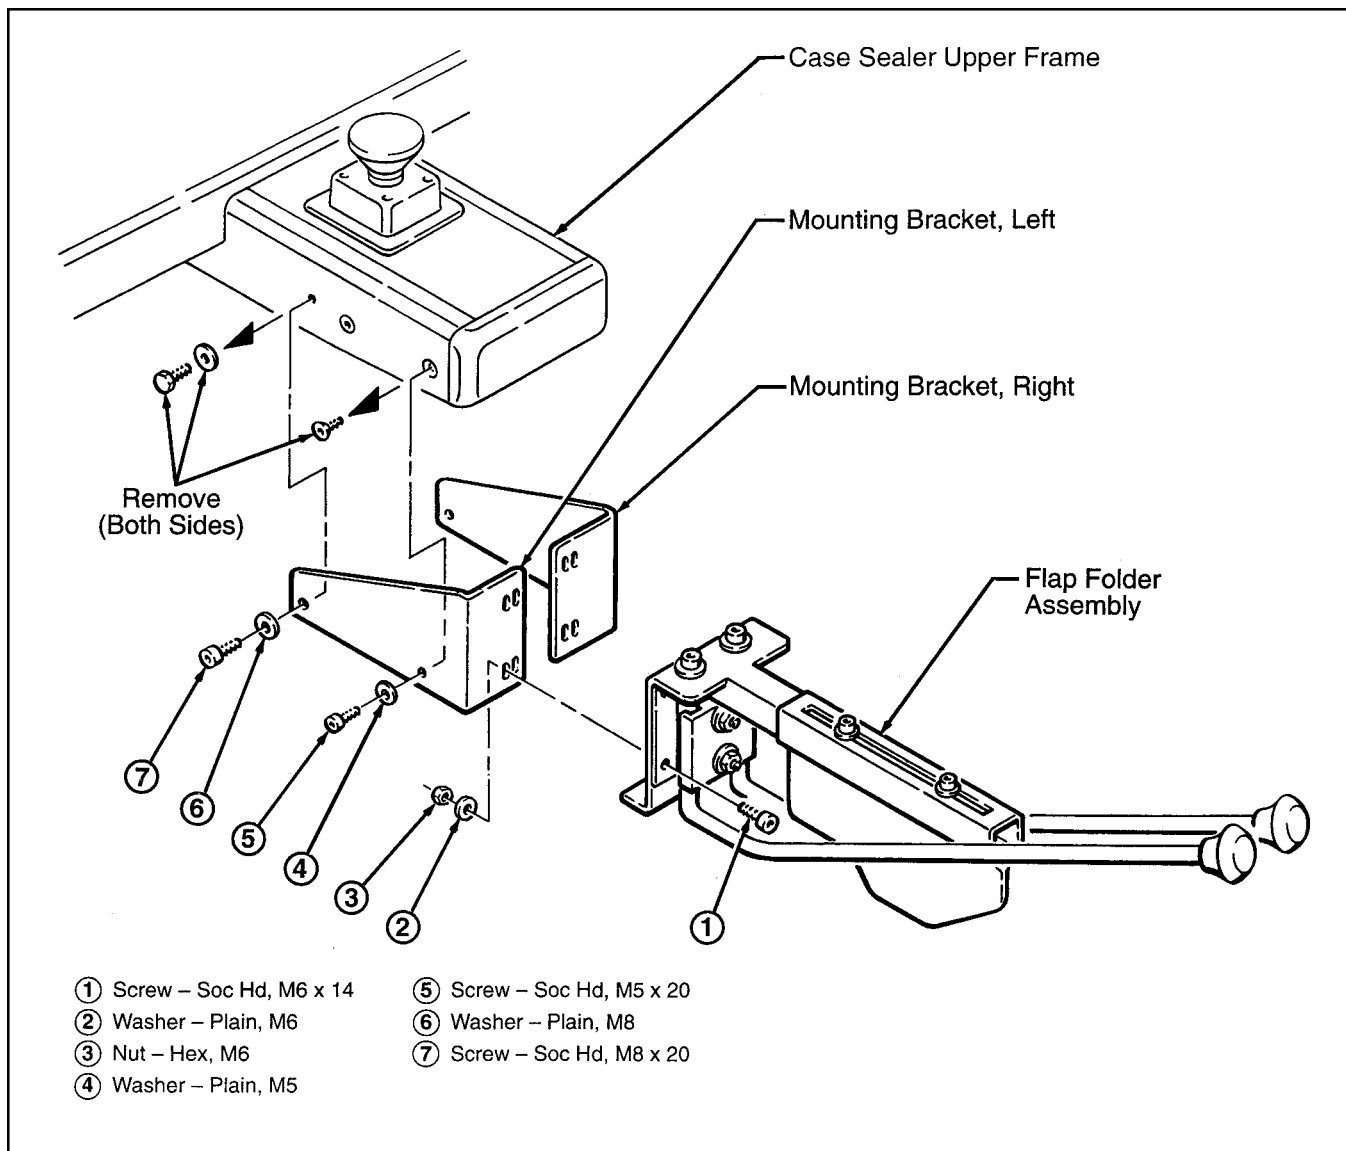

Figure 1 – Installing Flap Folder on 100a, 200a, 800a and 800a3 Case Sealers
Installing Flap Folder on 100a, 200a, 800a or 800a3 Case Sealers – Figure 1
3. Attach mounting brackets/flap folder to case sealer upper frame. Use screws and plain washers indicated in Figure 1.